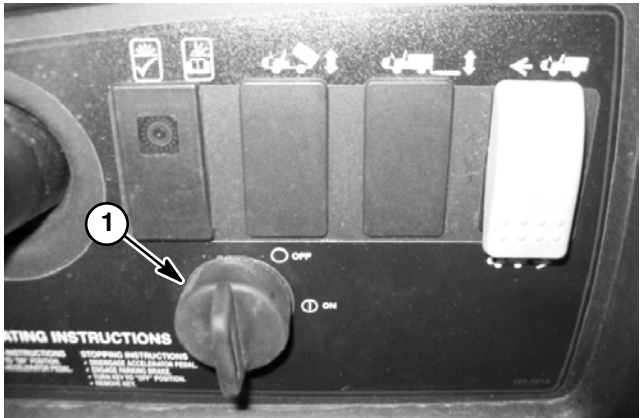
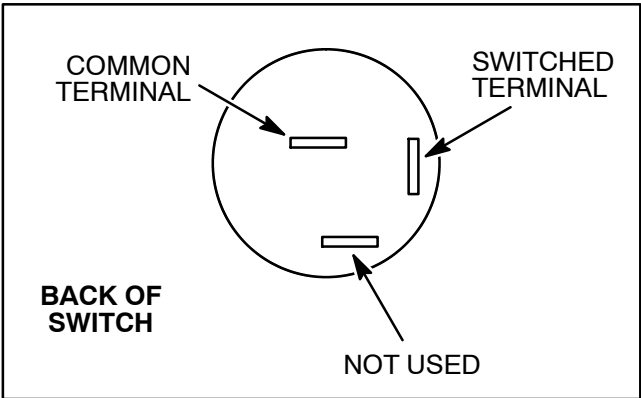

Figure 17
Figure 18
The Workman on/off switch is located on the dash panel (Fig. 17). The switch has two (2) positions (OFF and ON) and three (3) switch terminals. Only two of the terminals are used on the Workman MDE. The switch terminals are positioned as shown in Figure 18.